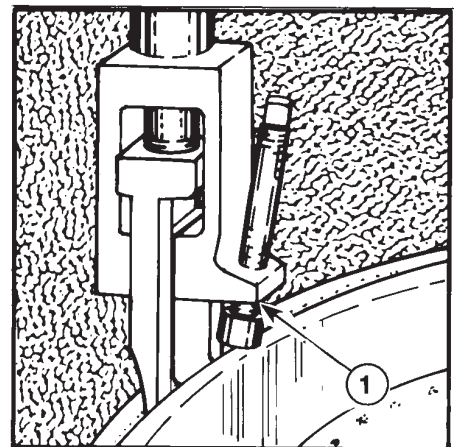

FIGURE 2
**NOTE: If, at any time, this operation appears to be unstable or the tool isn't aligned perpendicular to the rim, release the tool and adjust the screw again. See Figure 2.**